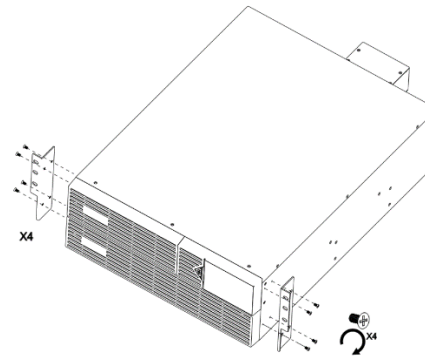

Figure 4
4. Attach the Rackmount Ears to the left and right front of the UPS. (Fig. 4)